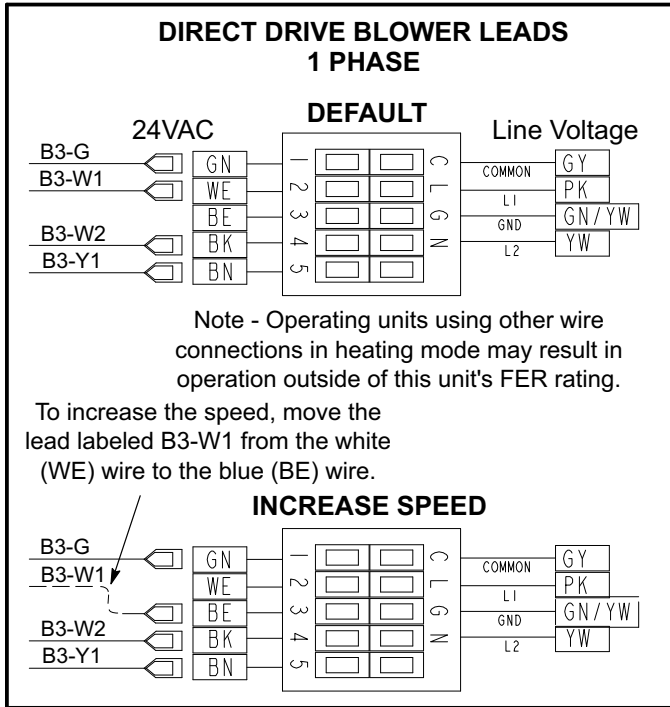

FIGURE 10
- 2- If CFM is lower than the design specified CFM, move the leads as shown in figure 10 for 208/230 volt single phase units.